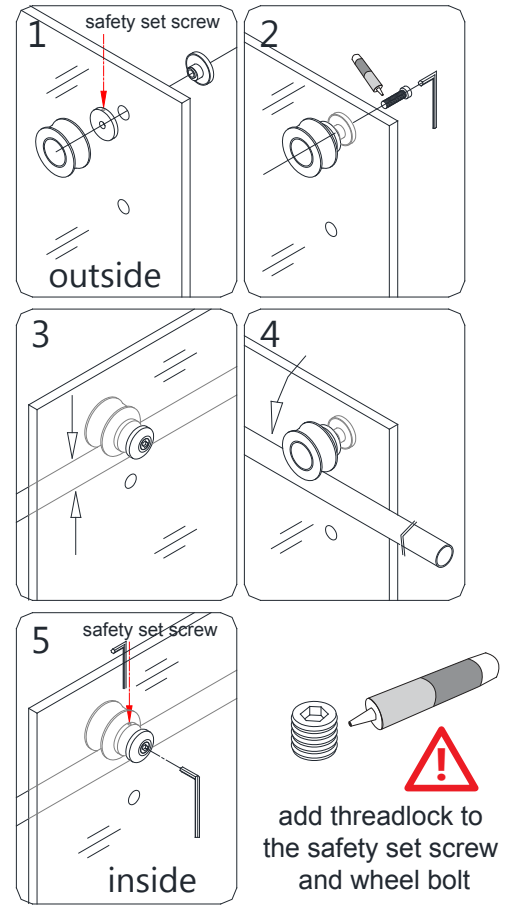

Fig 21
21. Attach two of the **Rollers (#04)** into the **top holes** on the **Door Glass (#05)** with the wheels facing outside of the shower. **Apply Thread Lock Adhesive (#26)** to the bolts and safety set screws. Align the **safety set screw** towards the top for easier access to **retighten after installation.** (See Fig 21 and page 30 for details)
Lift the door and position the **Rollers (#04)** onto the **Upper Guide Rail (#03)** while carefully sliding the bottom edge of the **Door Glass (#05)** into the groove of the **Guide Block (#12)**. If necessary, adjust the disks on both **Rollers (#04)** to ensure that the bottom edge of the **Door Glass (#05)** does not touch the bottom of the **Guide Block (#12)** (see details regarding adjustment on page 28). (Fig 21 and 22)